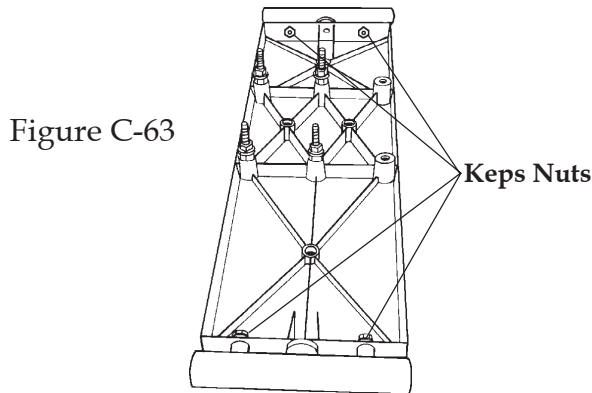

Figure C-63
- 77. If the extension table's tube is not aligned with the worktable's tube, use a 7/16" wrench to slightly loosen both keps nuts (248) attaching the tube to the extension table. Make the needed adjustments, then retighten the nuts. See Figure C-63.